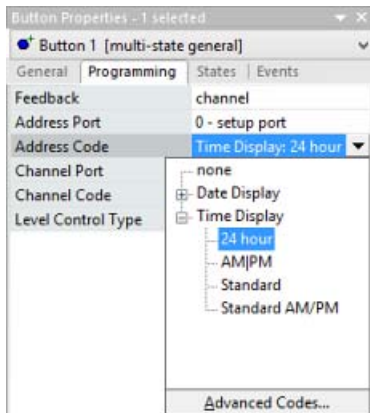

FIG. 409 Address Code: Time Display options
- Click the plus (+) symbol next to **Time Display** to expose a drop-down menu of time display formats to choose from (FIG. 409):